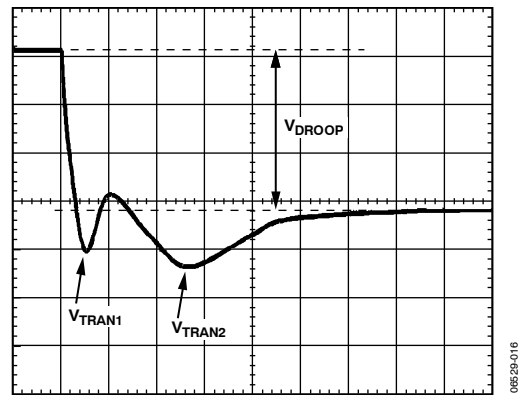
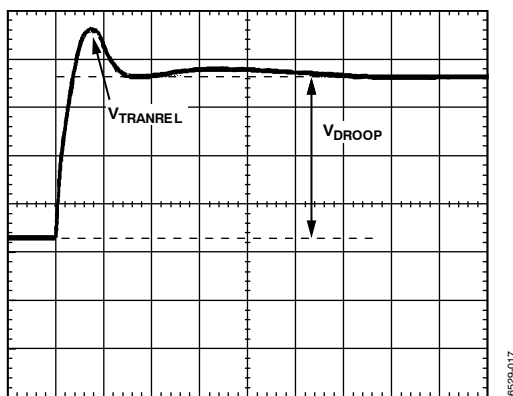

Figure 15. Transient Setting Waveform
Figure 16. Transient Setting Waveform
- With the dynamic load still set at the maximum step size, expand the scope time scale to see 2  $\mu$ s/div to 5  $\mu$ s/div. The waveform may have two overshoots and one minor undershoot (see Figure 15). Here,  $V_{DROOP}$  is the final desired value.
- For load release (see Figure 16), if  $V_{TRANREL}$  is larger than  $V_{TRAN1}$  (see Figure 15), there is not enough output capacitance. Either more capacitance is needed or the inductor values need to be smaller. If inductors are changed, start the design again using the spreadsheet and this tuning procedure.